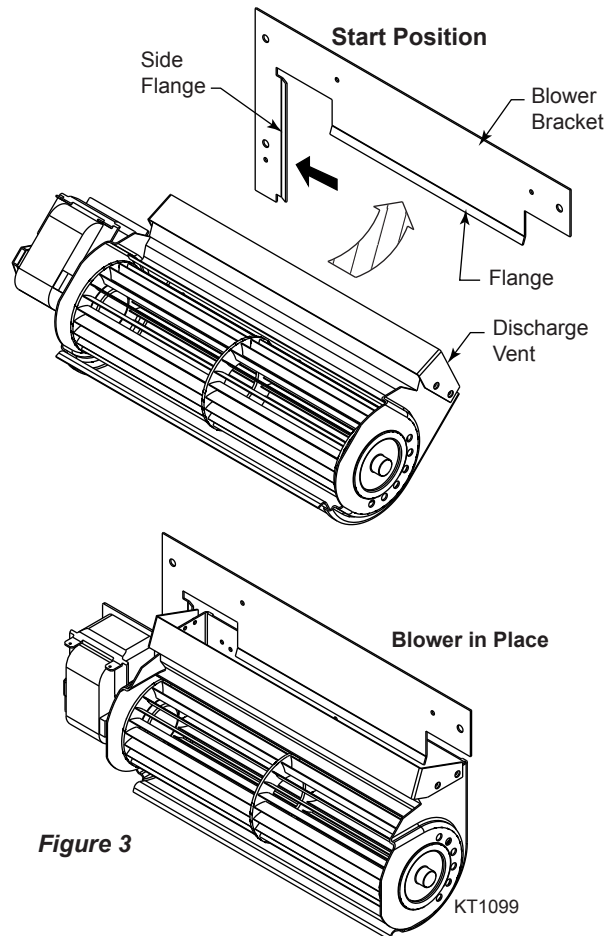

Figure 3
1. The four (4) Velcro strips are used to insulate blower vibration when using mounting bracket. Be sure to leave in place.
3. With blower in lower access compartment, turn the discharge vent so it is facing up. Slip the discharge vent flange under the flange of the mounting bracket flush up against the back wall. Slide the side tabs over into the side flange. *Figure 3*